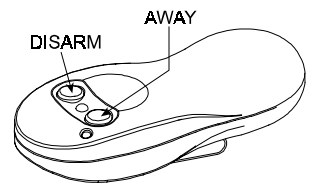

Figure 22. MCT-132 / 102
D. MCT-132 / MCT-102 (see Fig. 22): 2-button units. MCT-132 (CodeSecure) Can perform functions as shown. MCT-102 (PowerCode) can perform emergency and non-alarm functions. Both units look alike.